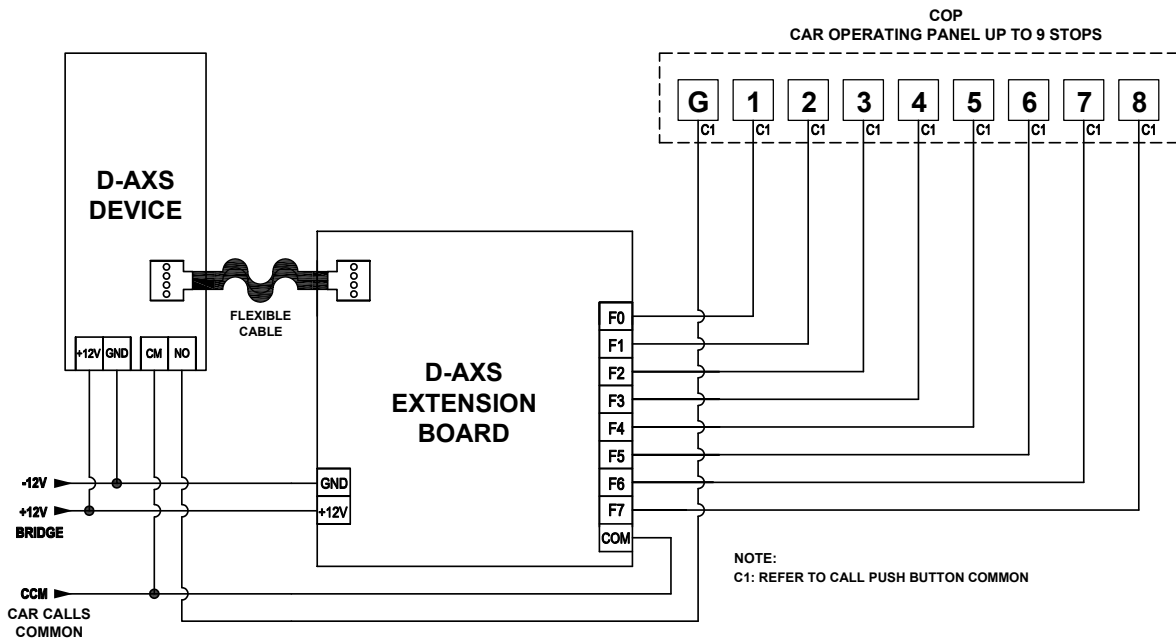

Figure 3.0 - Installation and Connections
| Figure 3.0 - Installation and Connections..... | 11 |
The terminals of the D-AXS device and extension board are connected as illustrated in Figure 3.0.
- Figure 3.0 illustrates the connection of the D-AXS device and the D-AXS extension board with the COP (Car Operating Panel).